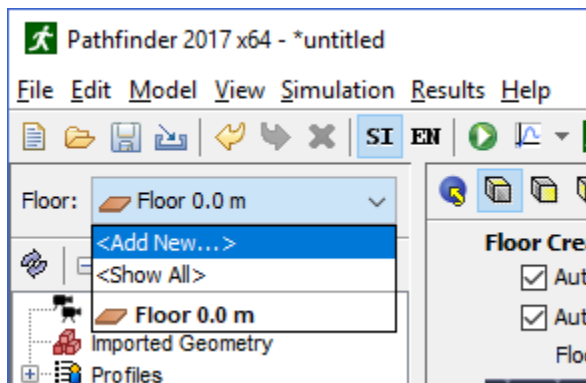

Figure 20. Adding a new floor
1. Click on the floor drop-down box above the Navigation View, and select **<Add New>** as shown in Figure 20. A dialog will open asking for the floor location.
To change the active floor, click the floor drop-down box as shown in Figure 20, and select the desired floor. This will make that floor active and all other floors non-active.
To show all floors click the floor drop-down box as shown in Figure 20, and click <Show All>.